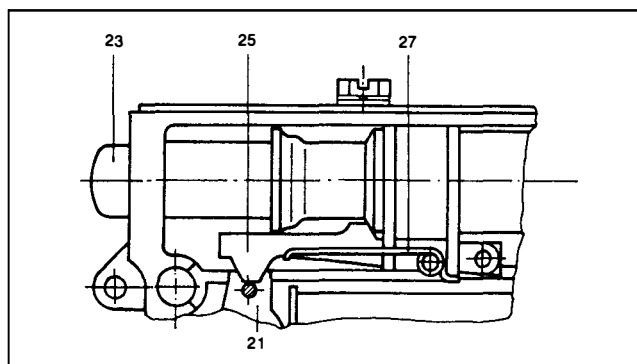

Figure 17b Latch Detail Undervoltage Release
On the undervoltage release the latch, (25), is held by the locking pin, (21), as long as the armature, (9), is attracted, (Fig. 17b). If the circuit of the trip coil, (7), is